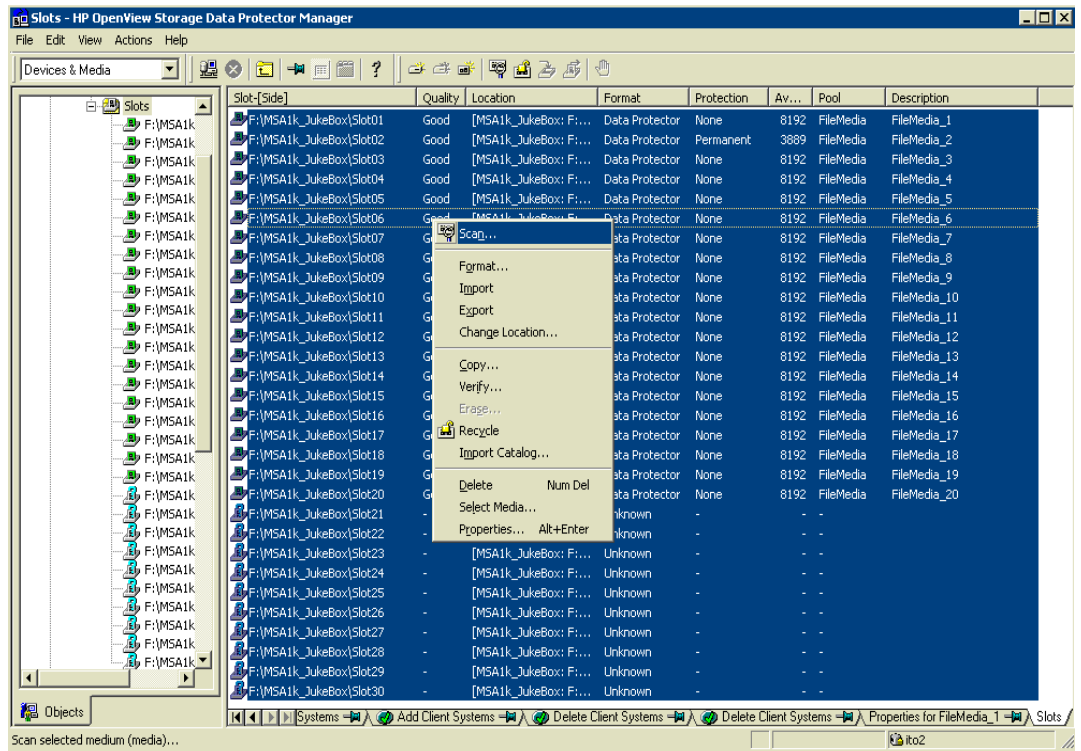

figure 12
6. After you have renamed the filenames, you need to scan the library using Data Protector. Select all the slots. Right-click and choose **Scan**. See Figure 12.
When the scan is complete, the slots are recreated in the msa1000 folder but the slots are empty. You can fill the jukebox with media by reformatting the slots that were just recreated. See formatting the virtual tape media. New virtual media is now in the slots and you are ready for the next backup. In Windows Explorer, you can see the slot filenames again. See Figure 12.